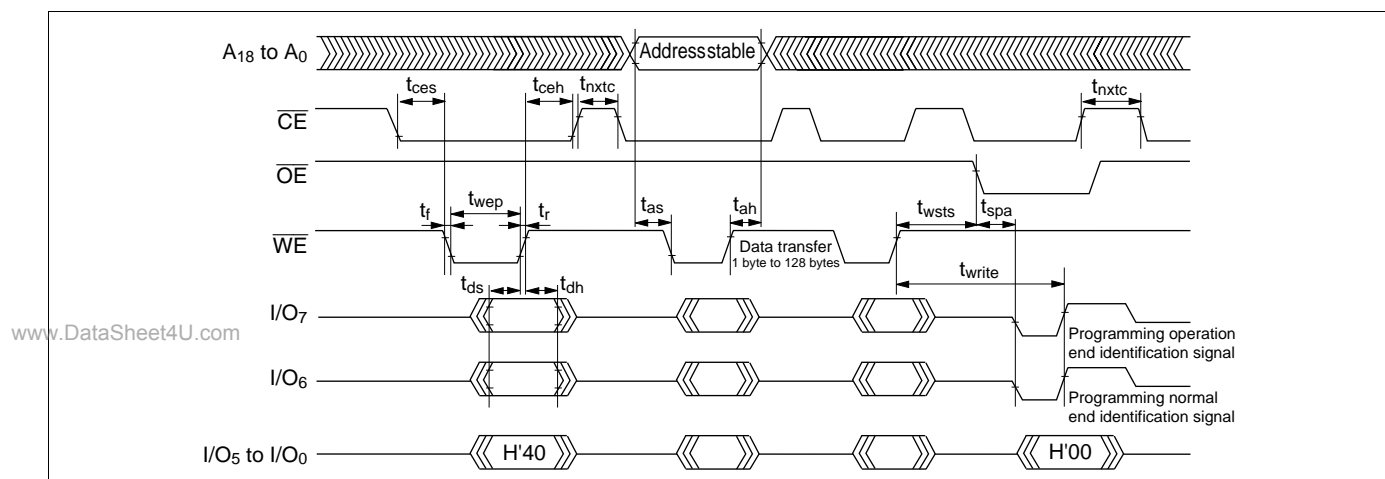

Figure 19-59 Auto-Program Mode Timing Waveforms
- Memory address transfer is executed in the second cycle (figure 19-59). Do not perform transfer later than the second cycle.